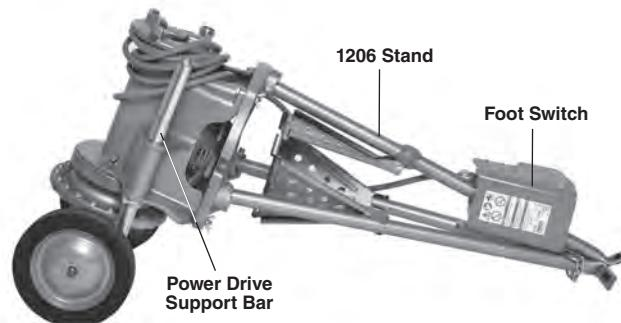

**Figure 27 – No. 32 Transporter Assembly**
1. If needed, assemble the No. 32 Transporter (see *Figure 27*).